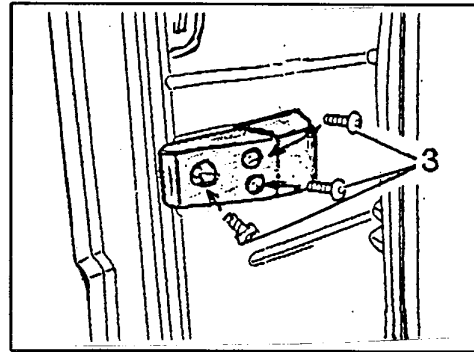

Figure 7
7. Install the new middle door stopper, part no. 661 760 36 29 with the three 6.0mm screws (3) and tighten them slightly. (see figure 7)